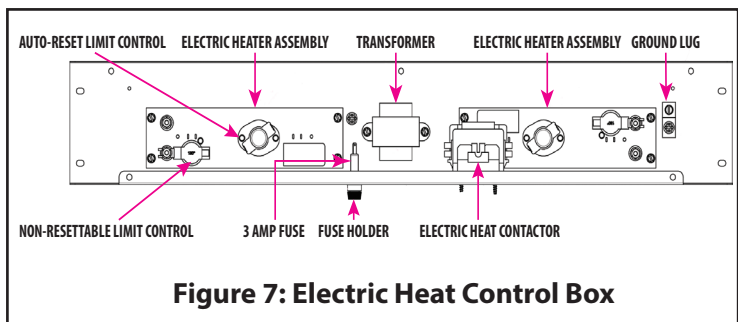

Figure 7: Electric Heat Control Box
8. Remove the screws that secure the auto-reset and non-resettable limit controls to the heating element mounting plate and remove the limit controls (See Figure 7).